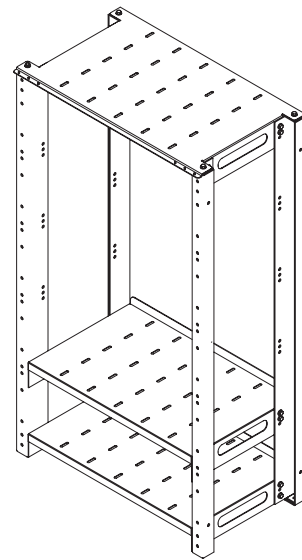

Figure 7.5a
- Attach a shelf to the 4 corner frames per Figures 7.5a, 7.5b and 7.5c. The 3-hole pattern in the shelf is to have bolts in the upper 2 holes when fastening to each corner frame (lower hole is left empty). Finger tighten bolts.